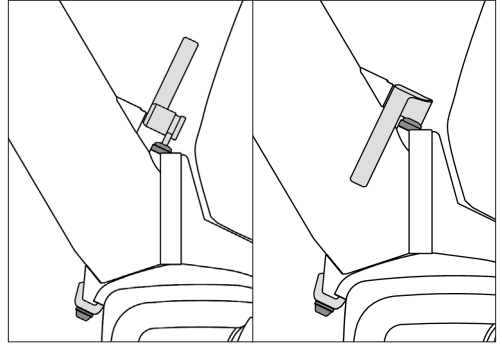

Fig. 44: Close the frame quick release
8. Secure the frame quick release lever by closing the quick release. It should point straight down and lay flat against the frame when closed (Fig. 44)